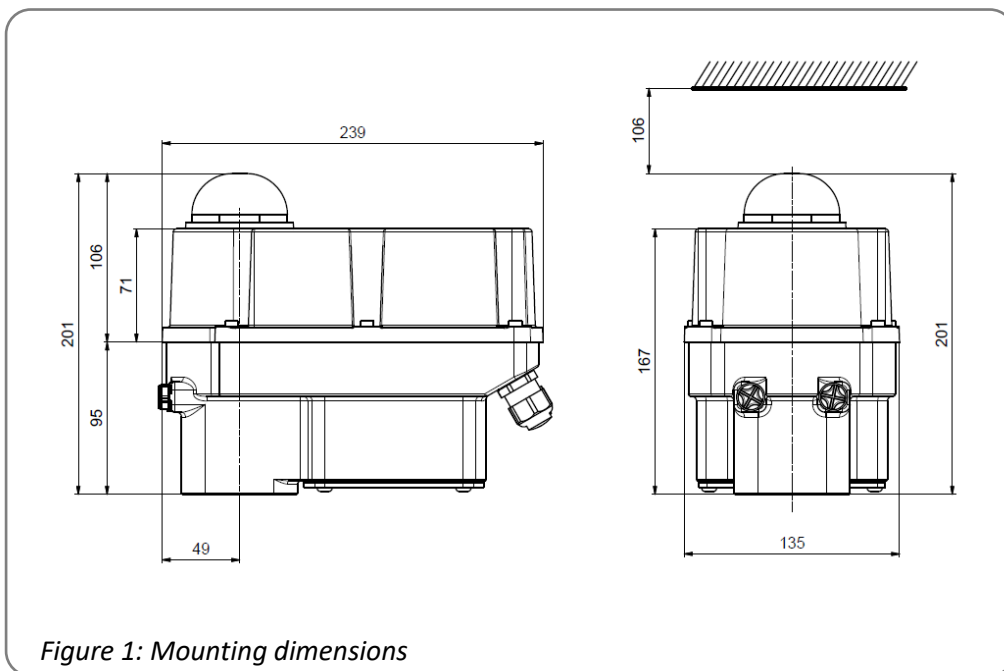

Figure 1: Mounting dimensions
- The actuators must be installed with sufficient clearance to remove the cover (Figure 1). The mounting position is arbitrary with the exception of "cover down" (Figure 2).